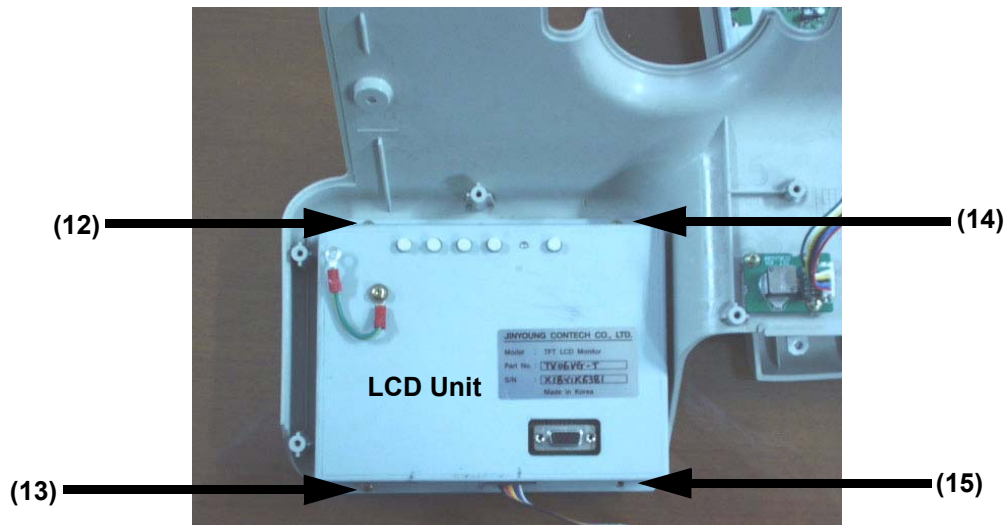

Figure 8-72 Unscrew 4 screws from the LCD unit
- 3.) Unscrew four (4) screws (12-15) from the LCD unit Refer to section Figure 8-72 on page 28..